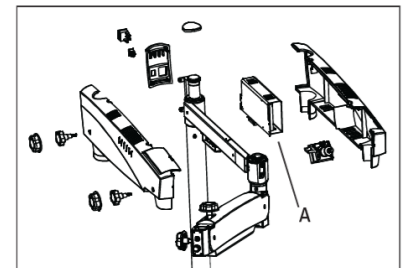

Fig. 43
Switch off the microscope. Open the swivel arm covers and replace the illumination assembly (A) with new assembly. Secure back the arm covers. Refer Fig. 43.